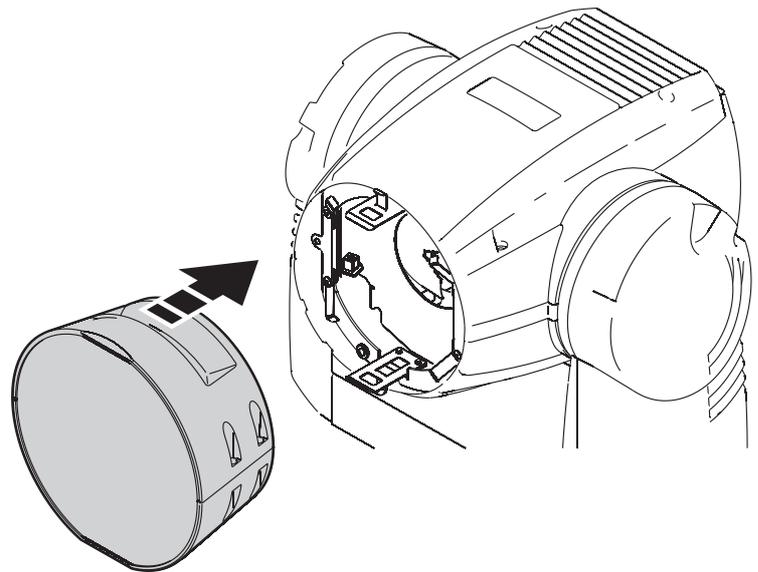

Figure 9
10. See Figure 9. Clip the new front lens assembly securely onto its mounting bracket in the front of the head.